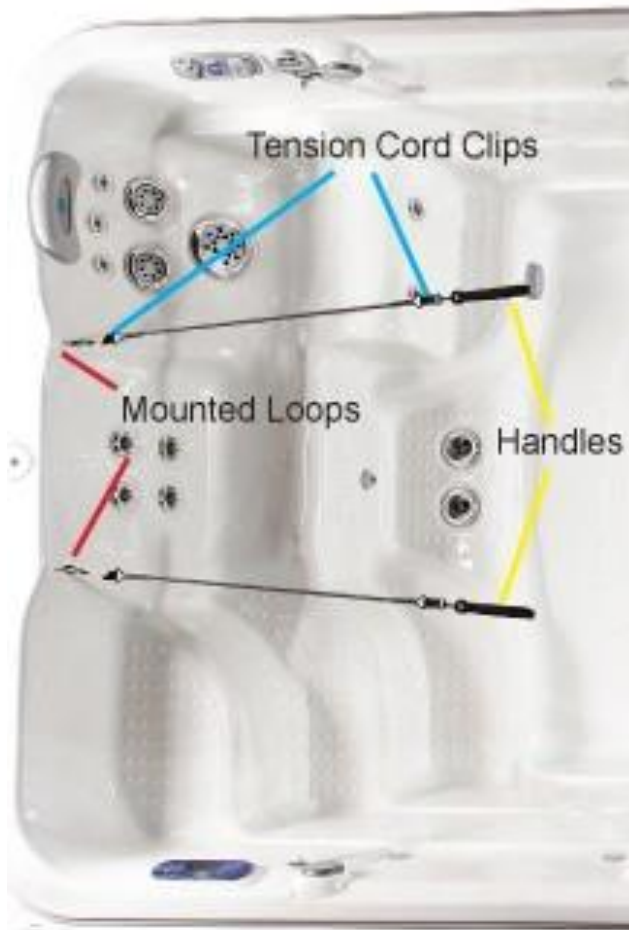

Figure 12. Tension Cord Mount Locations
- 1 Install Tension Cords** Choose a desired pair of the varying length tension cords. Clip the tension cords to the mounted loops (see Figure 12). Attach handles to the tension cord.